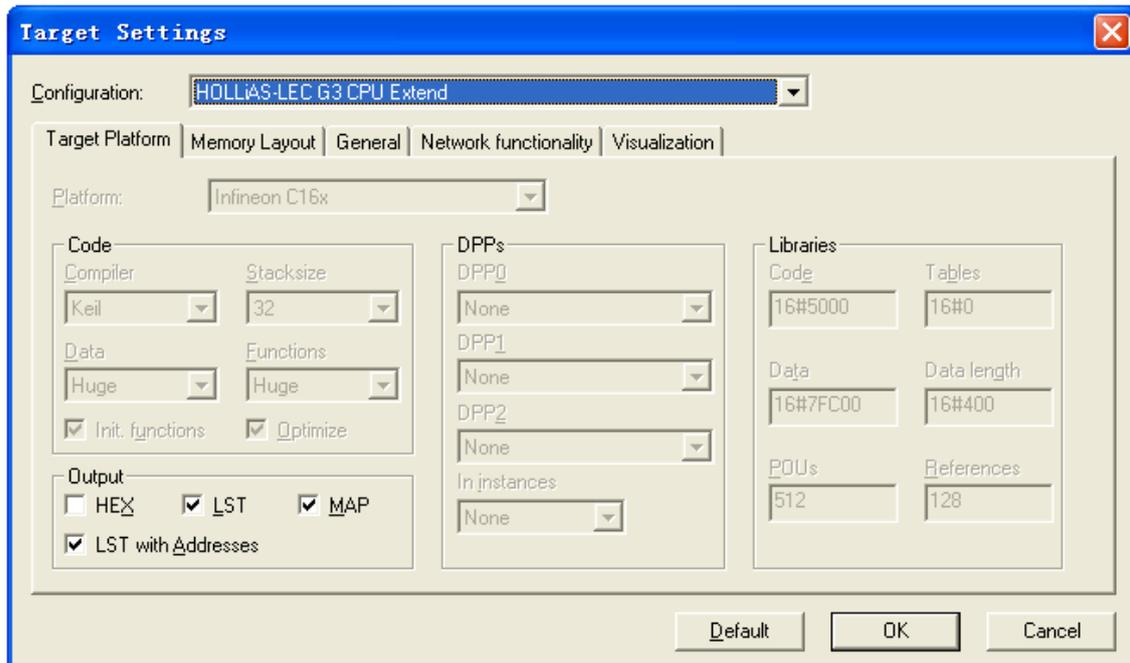

Figure 3-3-2 “Target Settings” Window
- After that, the window titled “Target Settings” will appear. The default settings will suffice for most application requirements. Click “OK”, as shown in figure 3-3-2.